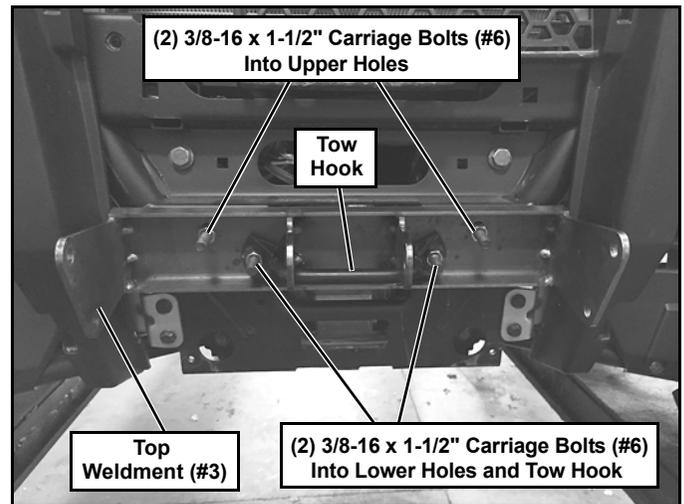

Figure 5
- Align the slots in the Top Weldment (#3) with the (4) square holes in the vehicle frame. The lower slots in the Top Weldment (#3) align with the holes that the tow hook was attached too. Place the tow hook over top of the Top Weldment (#3) aligned with the lower slots. (See Figure 5.)
- Insert (2) 3/8"-16 X 1 1/2" Carriage Bolts (#6) into the upper square holes in the vehicle frame and thru the Top Weldment (#3). Secure with (2) 3/8" Flat Washers (#10) and (2) 3/8"-16 Lock Nuts (#9). Insert (2) 3/8"-16 X 1 1/2" Carriage Bolts (#6) into the lower square holes in the vehicle frame, thru the Top Weldment (#3), and thru the tow hook. Secure with (2) 3/8" Flat Washers (#10) and (2) 3/8"-16 Lock Nuts (#9). (See Figure 5.)